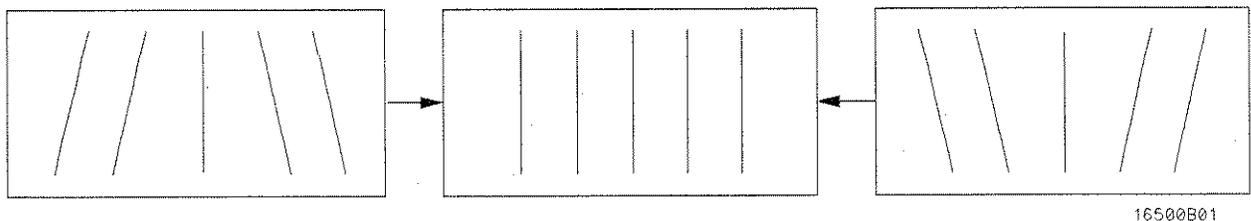

Figure 4-3. PIN PHASE Adjustment
8. Adjust **PIN PHASE (RV505)** on left side PC board to eliminate pin phase distortion in vertical lines of cross-hatch pattern. Refer to figure 4-3.